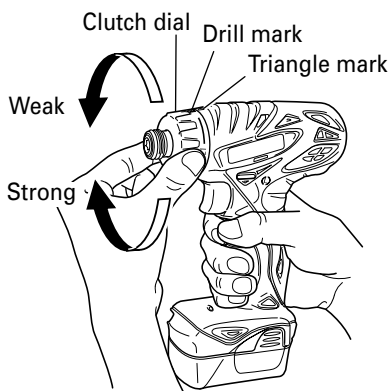

Fig. 6
5. Confirm the clutch dial position (see Fig. 6).
- (2) Tightening torque indication (See Fig. 6)
- (3) Adjusting the tightening torque (See Fig. 6)